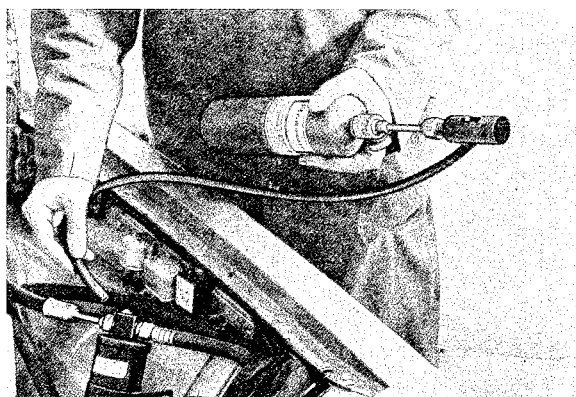

Fig. 8-97. Leakage test
4. Light the leak detector and check the entire system at all the connections by holding the end of the hose next to the connection (Fig. 8-97). If there is leakage, the color of the flame will change to blue-green. Check the entire system even if leakages are discovered at an early stage. NOTE: In all cases where gas might escape, the hands and bare skin should be protected with rubber gloves, etc.